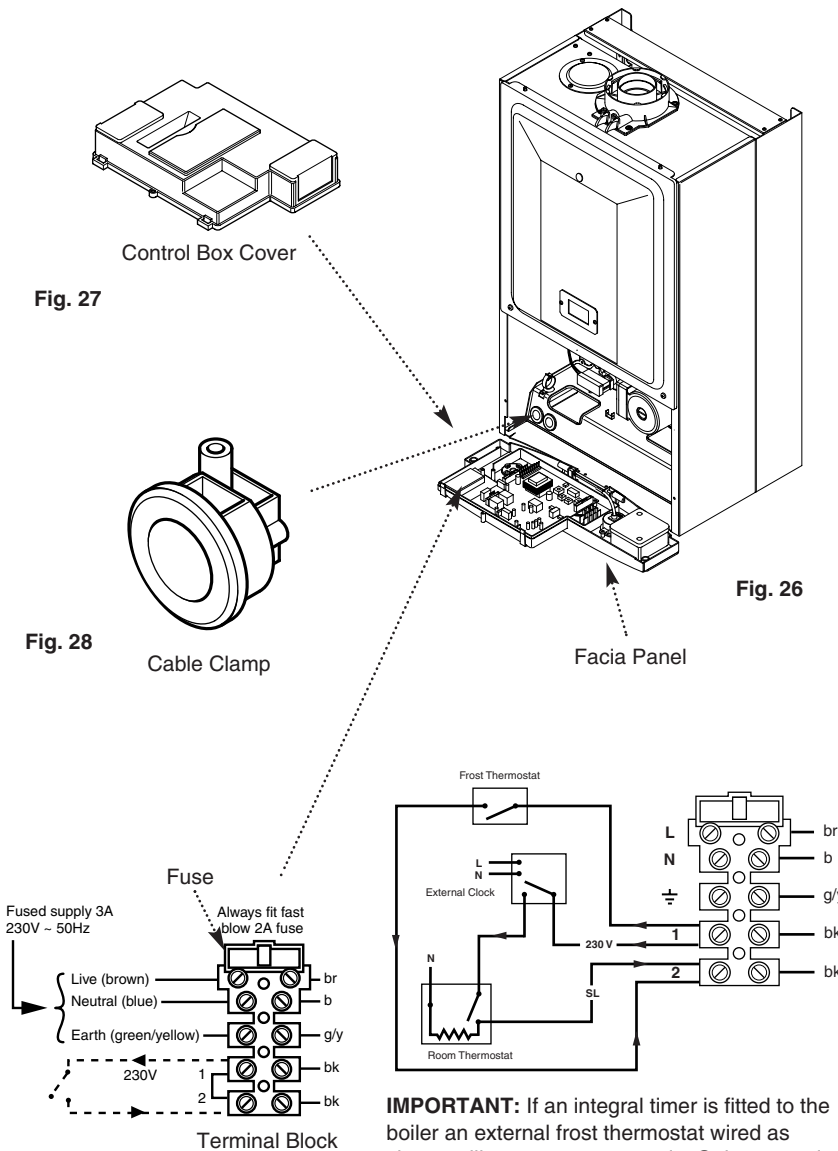

Fig. 29
7. To connect external control(s) remove the link between terminals 1 & 2. The 230V supply at terminal 1 can be connected to the external control. The switched output from the external control must be connected to terminal 2 (Fig. 29).
**NOTE:** If the room thermostat being used incorporates an anticipator it **MUST** be wired as shown in Fig. 29